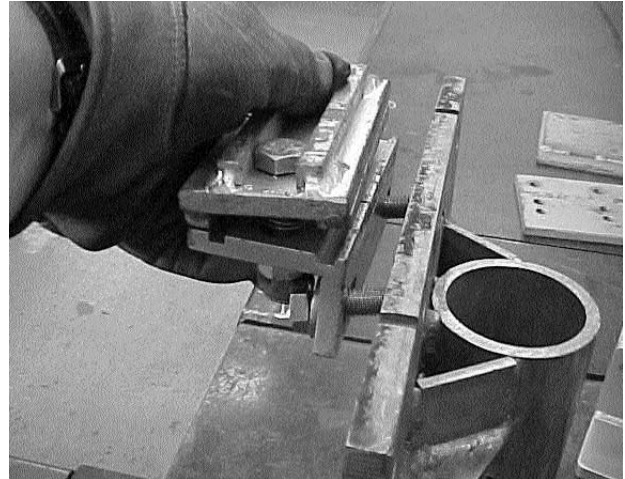

Figure 5
1. At right rear corner of center section, install anchoring components as shown in Figure 5. When installing components follow these steps:
- a. Attach a clamp jaw to the small angle support. Then attach this assembly to the vertical surface of the anchoring tubes. (See Figure 5.)